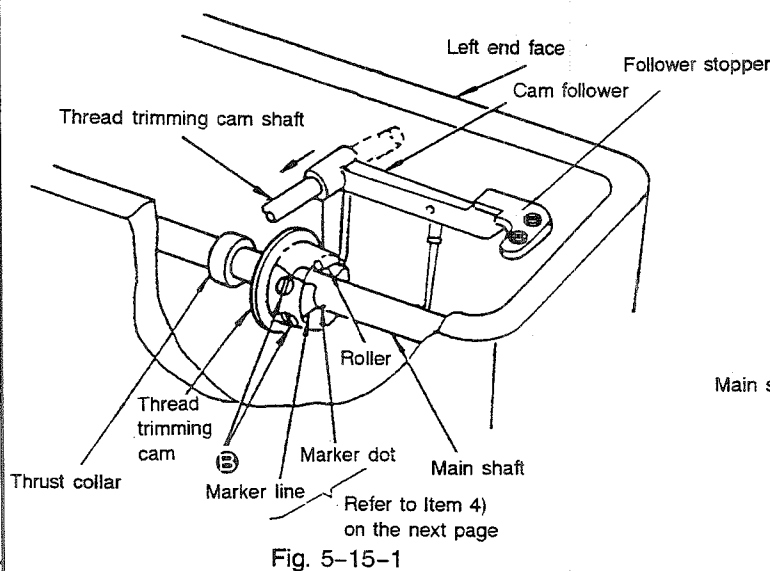

Fig. 5-15-1
- 2) The marker line on the thread trimming cam should be aligned with the marker dot on the main shaft with respect to the direction of rotation. (Fig. 5-15-1)